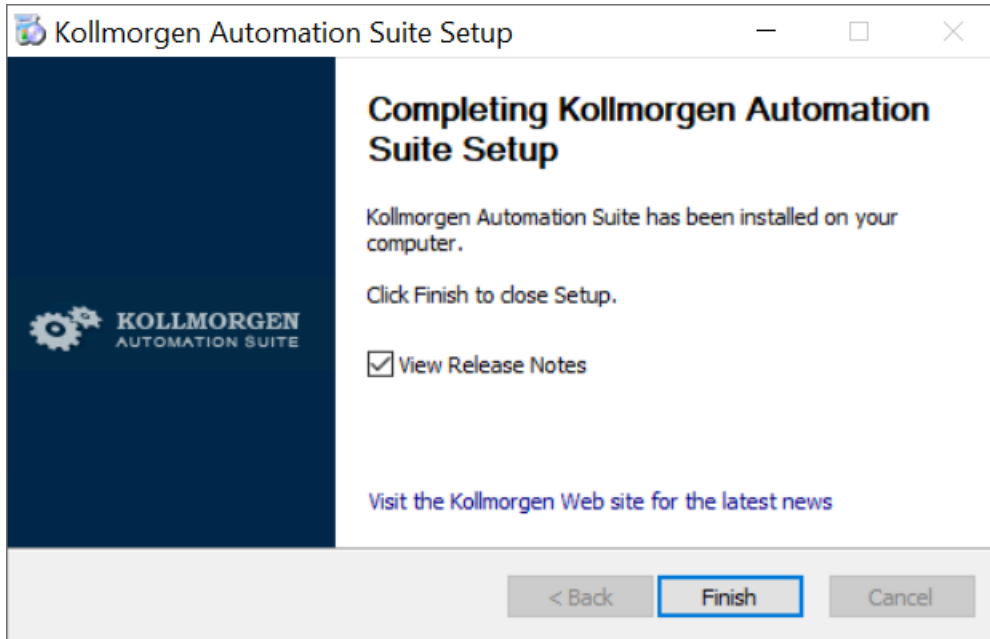

Figure 2-9: Completing KAS Setup window
- When the installation is complete, the **Completing KAS Setup** window opens. (Figure 2-9)